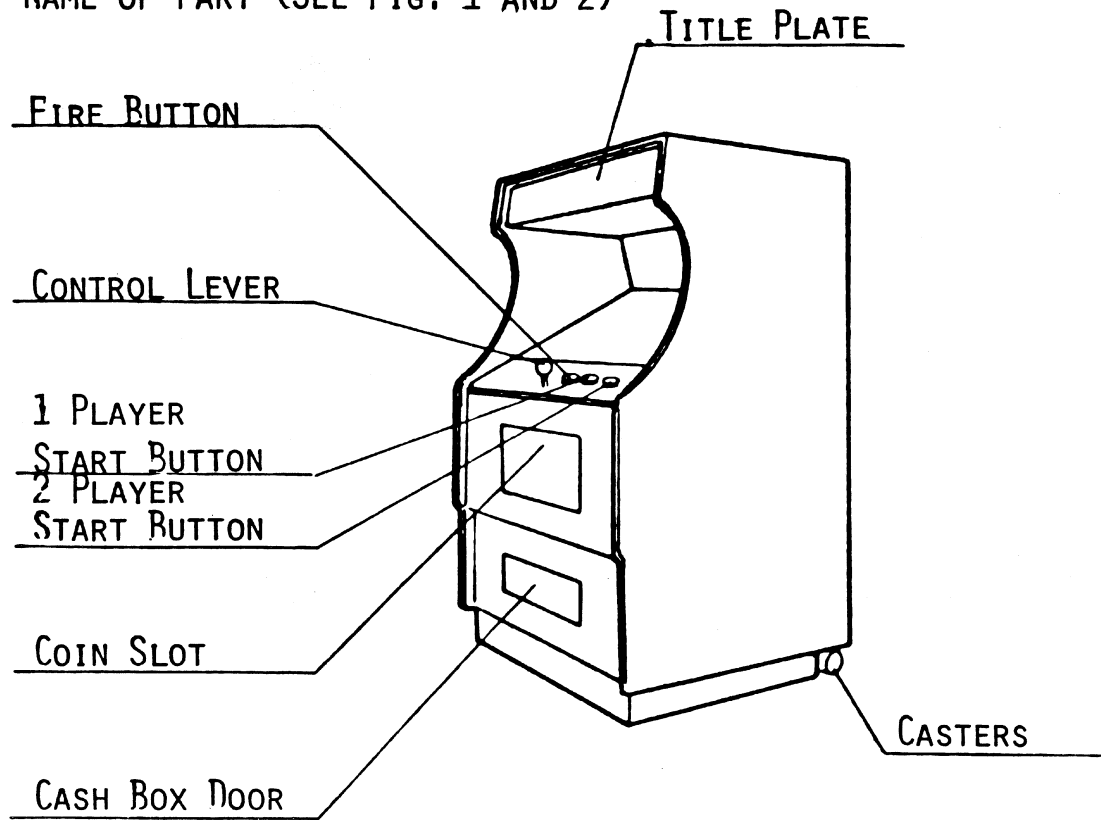

FIG. 1
1. NAME OF PART (SEE FIG. 1 AND 2)